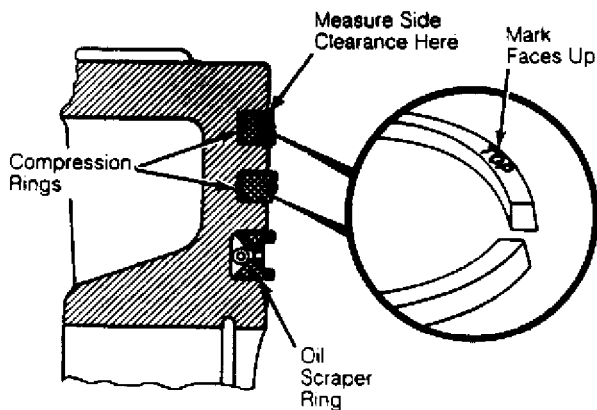

Fig. 8: Installing Piston Rings
2) Install rings on piston with TOP mark up. See Fig. 8. Using feeler gauge, measure piston ring side clearance. If clearance is not within specification, replace rings and/or pistons. See PISTON, PINS & RINGS TABLE under ENGINE SPECIFICATIONS at end of article.